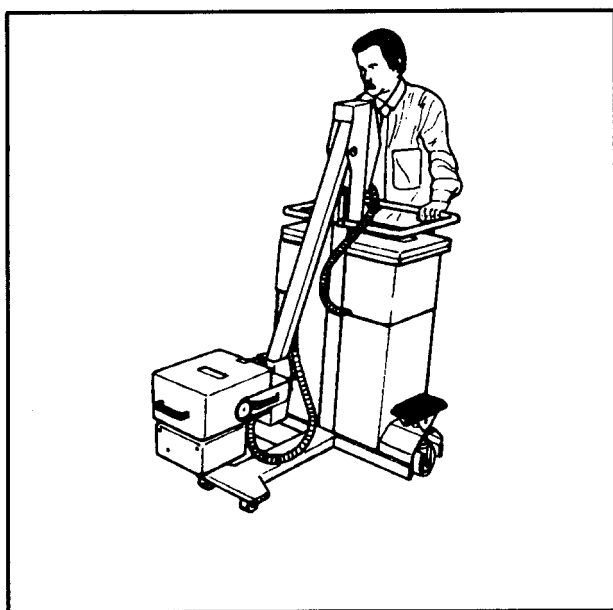

Fig. 1
- Lock the support arm in the traveling position (Fig. 1) and check the forced locking of the support arm.